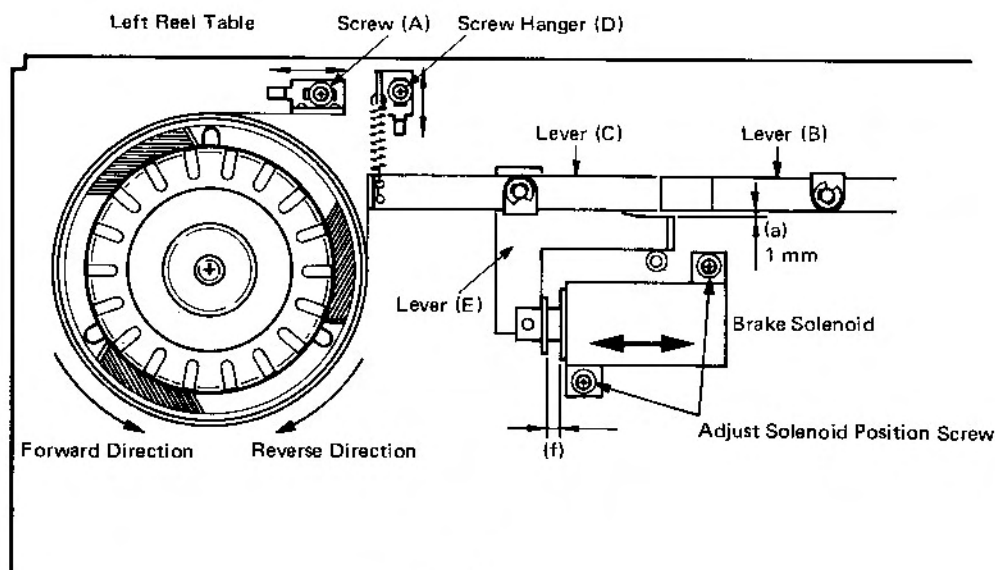

Fig. 2-2.
1. Screw (A) for the left brake (as viewed from the front) must be adjusted so that there is a clearance (a) of 1 mm between lever (C) and lever (E). Screw (A) for the right brake must then be adjusted so that lever (B) is parallel to lever (C). See Fig. 2-2.
- If the forward-direction torque is not correct, change the hooking position of the spring hanger (reference (D) in Fig. 2-2) for the corresponding brake requiring adjustment. If, after the forward-direction torque has been properly adjusted, the reverse-direction torque is not correct, or the forward-direction torque is still not correct, check to see if the brake felt pad is worn, and also check that the brake mechanism is properly aligned as explained in Section 2-4. "Brake Mechanism". If necessary, replace the entire reel table.